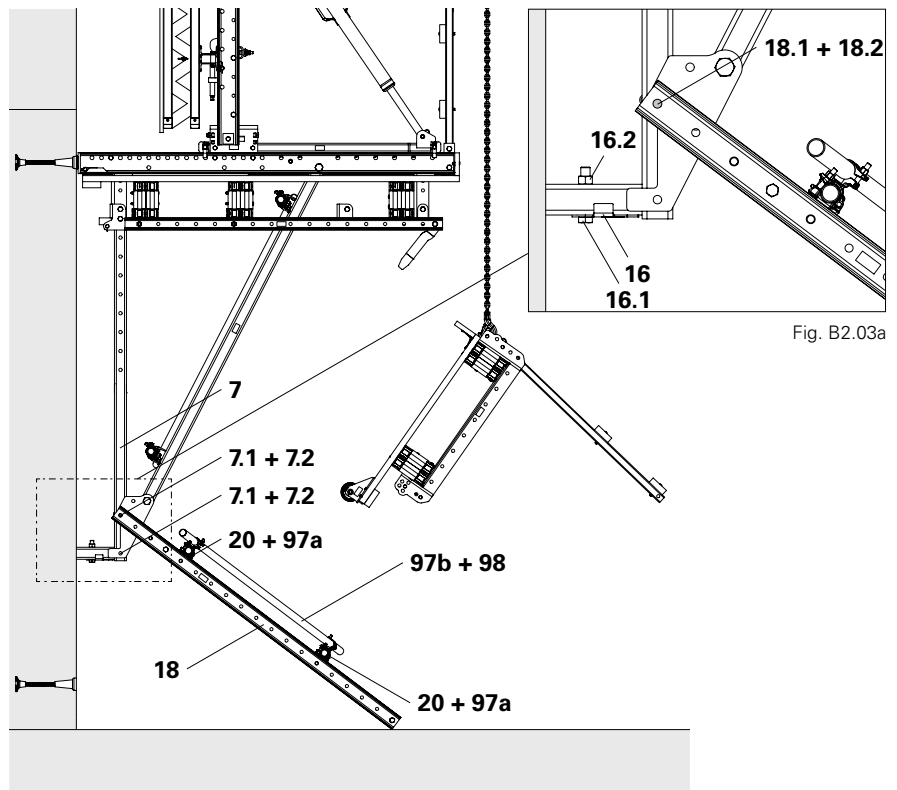

Fig. B2.03
7. Diagonally fix Scaffold Tubes Steel 48.3 x 3.2 (**97b**) to the horizontal scaffold tubes (**97a**) using Swivel Couplings DK 48/48 (**98**) (see Section B1.7). (Fig. B2.03)